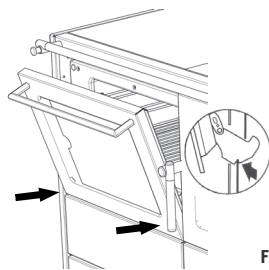

Fig. 69
- Hold the oven door with both hands at the sides and insert the hinges into the corresponding openings in the oven. The hinge will engage (Fig. 69).